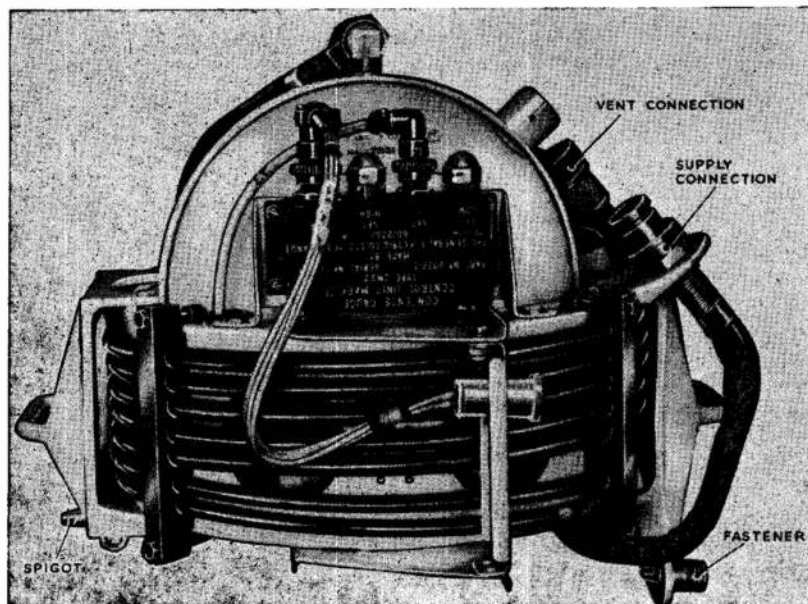

Fig. 2. Side view showing contents gauge control unit
8. Referring to fig. 2, the contents gauge unit is used for aircraft liquid oxygen systems to convert the capacitance value provided by the quantity of liquid oxygen available in the container, for reproduction to a remote indicator. This unit which consists of an amplifier, oscillator and capacitance bridge, utilizes the difference in dielectric constant between gaseous and liquid oxygen, to measure the quantity of liquid in the container. It embodies two cable connectors and two adjustments which are used for calibration purposes. One electrical cable from this unit is connected to the probe in the container, the other cable is fed to the contents gauge via six-pole socket fixed to a bracket in the cradle. This contents gauge control unit is illustrated and described in Sect. 2, Chap. 1.